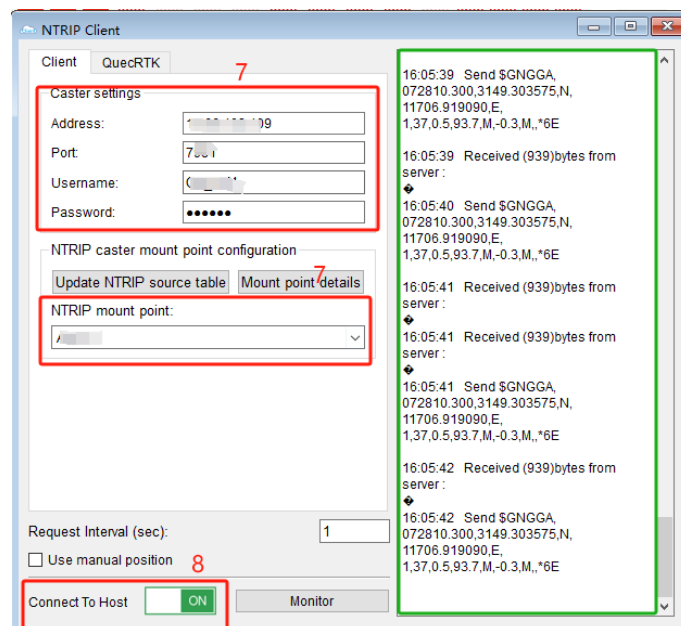

Figure 10: NTRIP Caster Configuration
Step 7 Fill in the information of “Caster settings” and “NTRIP mount point” as shown in Figure 10: NTRIP Caster Configuration. Test accounts can be obtained by sending an email to (support@quectel.com).
Step 8 Click “Connect To Host” to connect host as shown in Figure 10: NTRIP Caster Configuration.